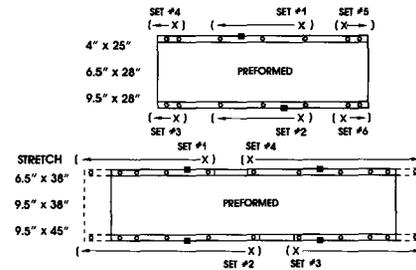

Figure 36 — LOCKBAR Torquing Procedure
10.06 Sequence and Torquing procedure (Fig. 36)